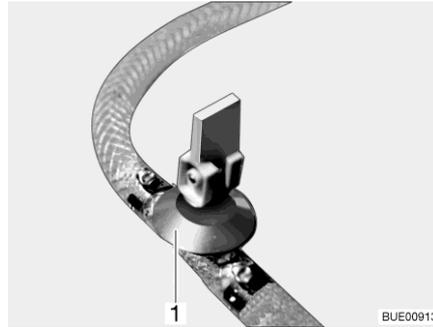

Fig. 148 Drain cock (with rocking lever)
- Open all drain cocks. In order to do this, position the rocking lever of the drain cock (Fig. 148,1) vertically.